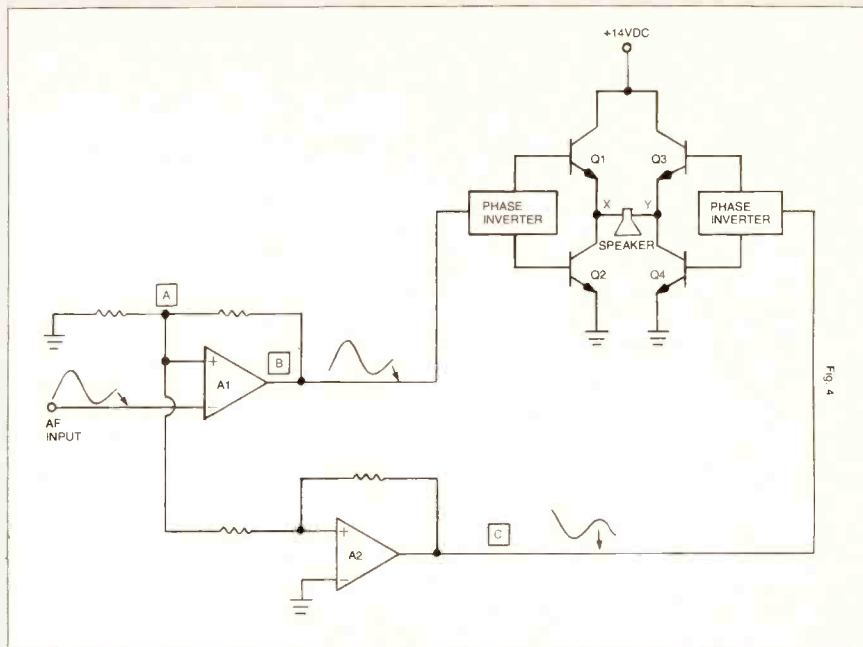

Fig. 4 A typical bridge configuration amplifier.
Some new car radios, notably the Delco models, have a little tag on the chassis that says "DO NOT GROUND LOUDSPEAKERS." Why not? After all, aren't car radio loudspeakers normally grounded? In the past, single-ended and push-pull audio amplifiers used a speaker system in which one side was grounded. This makes sense in a car radio because we can then use the car chassis as the return for the speaker system. But, in making sense economically, it also limited the bandwidth in many models. The output transformer sapped frequency response. When transformerless outputs came along, they too had a single-ended output configuration. But now we are seeing something called bridge audio. What is bridge audio? See Fig. 4.
Figure 4 shows the block diagram for a bridge audio power amplifier stage. Transistors Q1 through Q4 are power amplifiers, and are connected into a bridge circuit with the loudspeaker at the bridge output terminals. You will recognize Q1/Q2 and Q3/Q4 as the ordinary single-ended totem-pole output amplifier used for a number of years in auto radio. Ordinarily, the voltage at points X and Y is $\frac{1}{2}$ -Vcc, which in this case would be $\frac{1}{2}$ (14), or 7v dc. When a signal is applied, the phase inverter section will turn one transistor of each pair on and the other off, depending